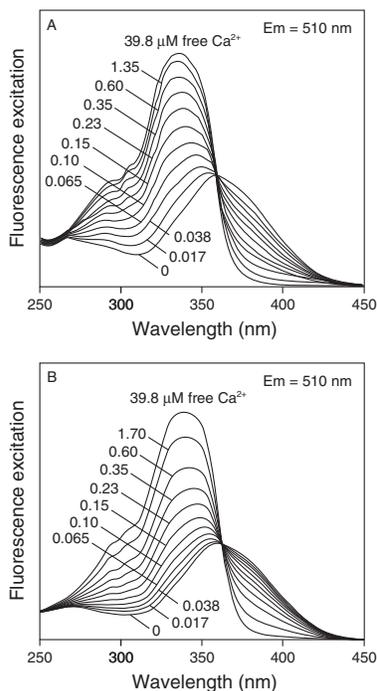

Figure 1. Fluorescence excitation spectra of A) fura-2 (F-1200) and B) bis-fura-2 (B-6810) in solutions containing zero to 39.8 μM free Ca^{2+} .
- 2.1 In contrast to single-wavelength indicators such as fluo-3, the absorption (or fluorescence excitation) maximum of fura indicators shifts from 363 nm for the Ca^{2+} -free chelator to about 335 nm for the Ca^{2+} -bound (Figure 1). The wavelength of maximum fluorescence emission is relatively independent of Ca^{2+}